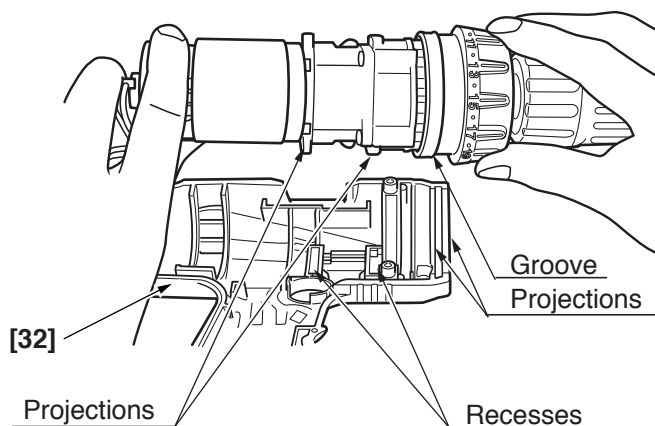

Fig. 19
(b) Install the assembly reassembled in step (3) into Housing (A) [32]. Note that the projections on the Front Case [9] and the Motor Spacer [27] are engaged in the recesses in Housing (A) [32], and the projection on Housing (A) [32] is engaged in the groove of the Cap [4]. (See Fig. 19.)